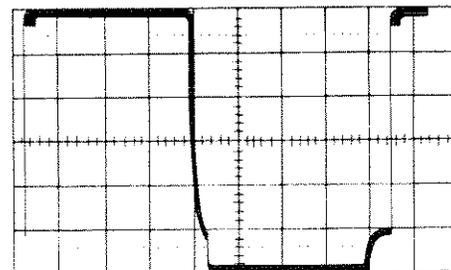

Figure 5-5. Chopper Performance
(1) When replacing the diode, the cap must be on the cathode end of the diode. The bowed washer from the original diode should be placed (concave side up) on the anode end of the diode Fig. 5-5 Diode Replacement. It is important that the diode be pressed firmly in place before tightening the socket head setscrew.
- b. Fig. 5-5 shows a typical oscilloscope pattern of the chopper operation. Duty cycle is approximately 50%. Contact bounce will generally increase with use. The chopper assembly (G-1) can be readily replaced if contact bounce becomes excessive and impairs observations on the oscilloscope.